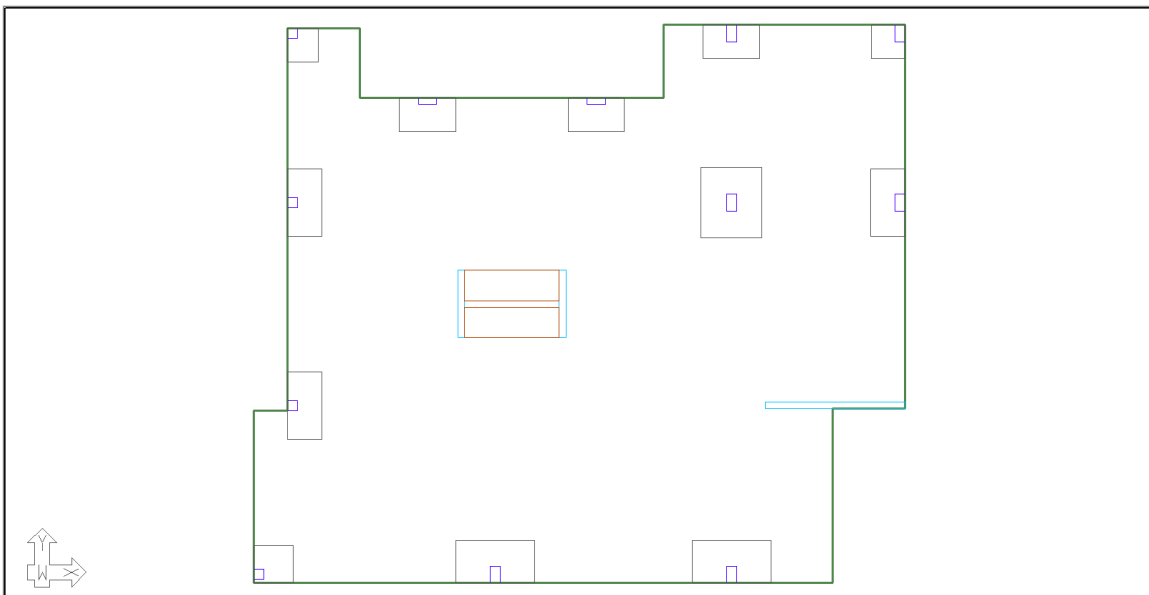

FIGURE 5-22
- Click on the **Zoom Extents**  icon. The user should see the Level 4 floor plan modeled within Builder as shown in **FIGURE 5-22**.